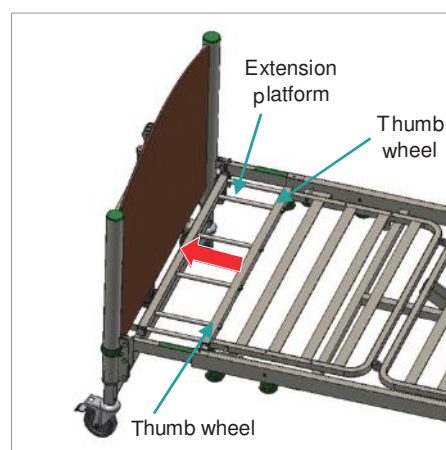

Figure 16: Extending the platform
- Slide the platform extension out until it reaches the end stops (Figure 16).